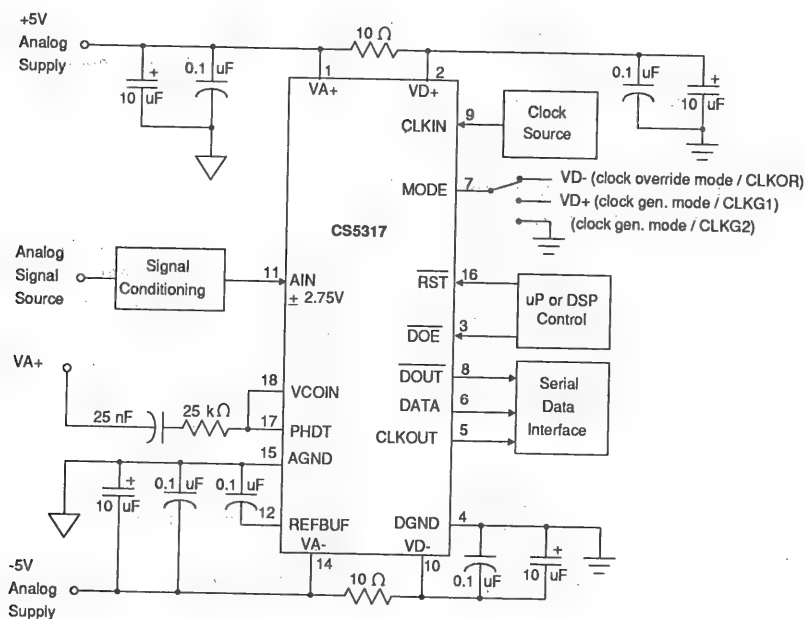

Figure 1. System Connection Diagram with Example PLL Components
*manently damaged.* If the two supplies are derived from separate sources, care must be taken that the analog supply comes up first at power-up. Figure 1 shows a decoupling scheme which allows the CS5317 to be powered from a single set of  $\pm 5V$  rails. The digital supplies are derived from the analog supplies through 10  $\Omega$  resistors to prevent the analog supply from dropping below the digital supply.